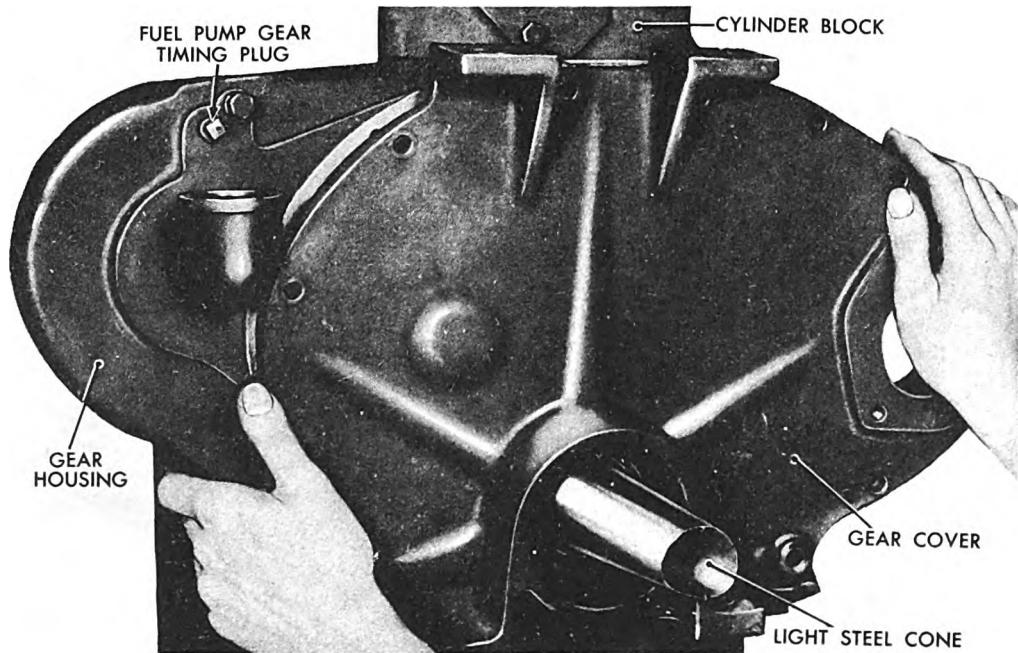

Fig. 175. Installing Gear Housing Cover
*l. Installing Gear Cover.* Shellac the gear cover gasket to the gear housing. A new oil seal should be in place in the gear cover. (See paragraph 55e.) Slip a thin steel cone over the crankshaft to protect the crankshaft oil seal when installing the cover, as shown in Figure 175. This thin steel cone is formed from rolling a thin piece of light steel so that the diameter of the one end is smaller than the end which slips over the fan pulley spacer.